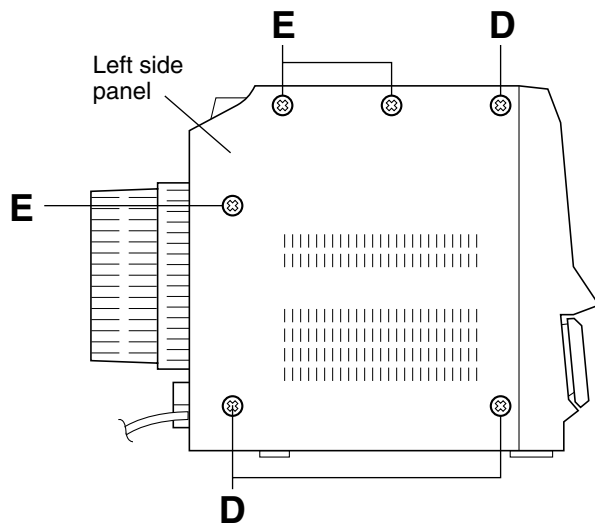

Fig.6
- Remove the left side panel according to its disassembly method (see **Figs. 6** and **7**).
(See Figs. 6 and 7.)